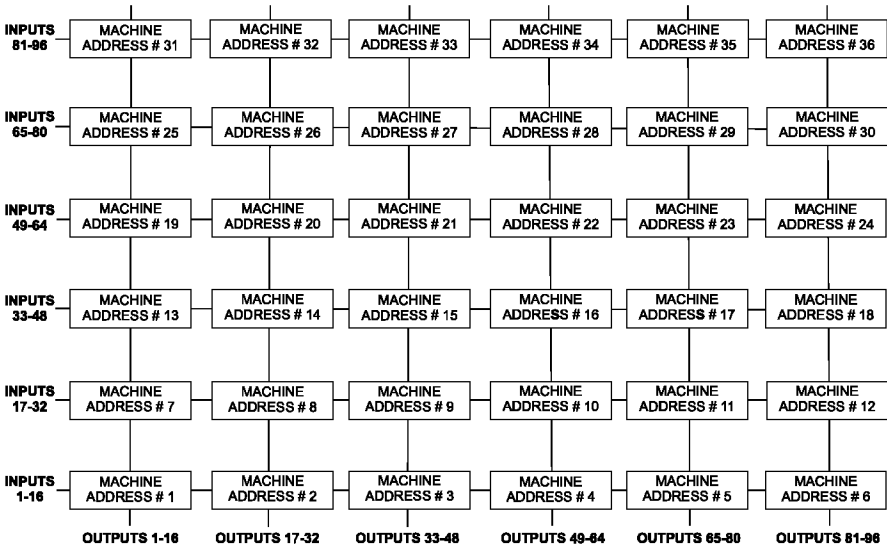
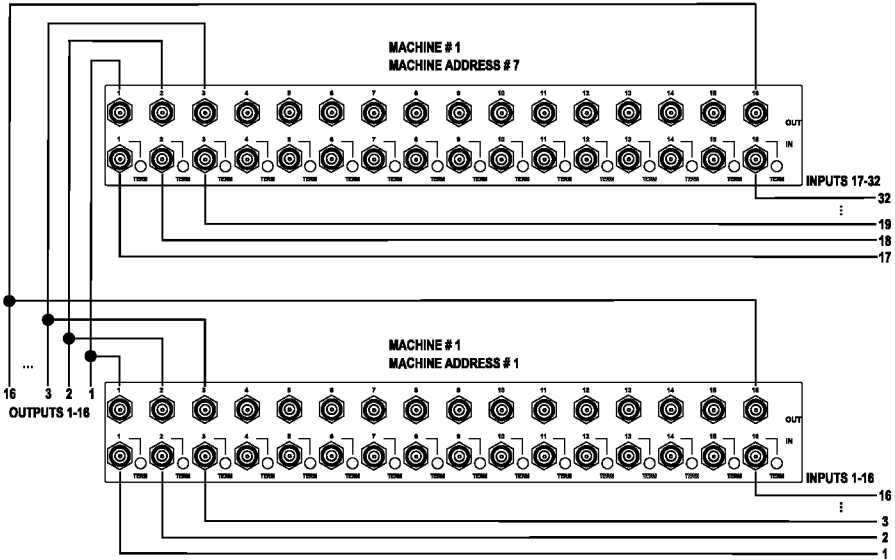
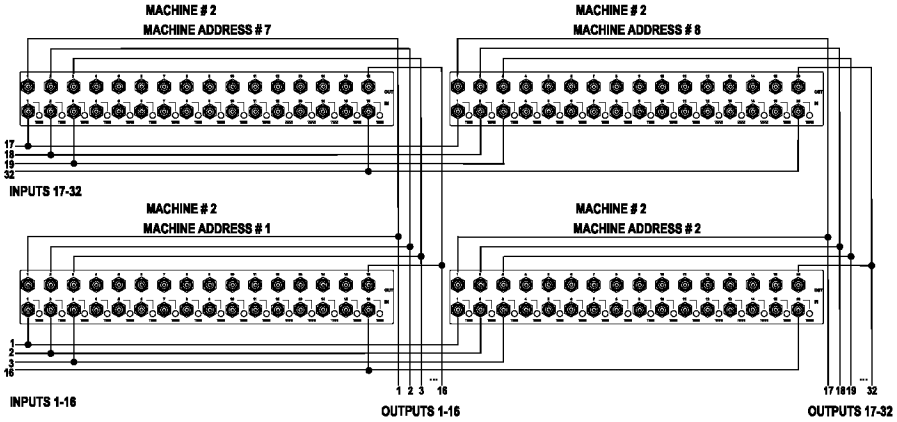

Figure 8: MACHINE ADDRESS # Designation
Figure 9: Connecting the 32x16 Switcher
Figure 10: Connecting the 32x32 Switcher
You can expand the number of inputs and outputs using several **VS-162V** units¹. Set the **MACHINE ADDRESS #** (see section 6.5.2) on each **VS-162V** unit to define which inputs and outputs are configured to that particular unit when expanding, as the chart in Figure 8 illustrates.
For example, to connect a 48x64 switcher (48 inputs and 64 outputs), you would configure using **MACHINE ADDRESS #** 1, 2, 3, 4; 7, 8, 9, 10; 13, 14, 15 and 16. You can only choose a rectangular² configuration from the chart in Figure 8.
As can be seen in Figure 8, a 32x16 switcher consists of 2 **VS-162V** units (**MACHINE ADDRESS #** 1 and **MACHINE ADDRESS #** 7). To assemble, as Figure 9 illustrates:
3 For a single group, this is usually set to # 1, as in the example in Figure 9
2. Set the MACHINE ADDRESS # on one VS-162V unit to 1 and on the other VS-162V unit to 7 (refer to Figure 8).
As can be seen in Figure 8, a 32x32 switcher consists of 4 VS-162V units (MACHINE ADDRESS # 1, MACHINE ADDRESS # 2, MACHINE ADDRESS # 7 and MACHINE ADDRESS # 8). To assemble, as Figure 10 illustrates:
2. Set the MACHINE ADDRESS # to 1, 2, 7 and 8 on each of the 4 units, respectively (refer to Figure 8).
¹ Set to # 1 in most cases. In the example in Figure 10, the MACHINE # is set to # 2
The MACHINE ADDRESS # is determined via the MACHINE ADDRESS Menu command, as section 8.4 describes. The MACHINE ADDRESS # defines which inputs and outputs are configured to that particular unit when expanding, as the chart in Figure 8 illustrates.